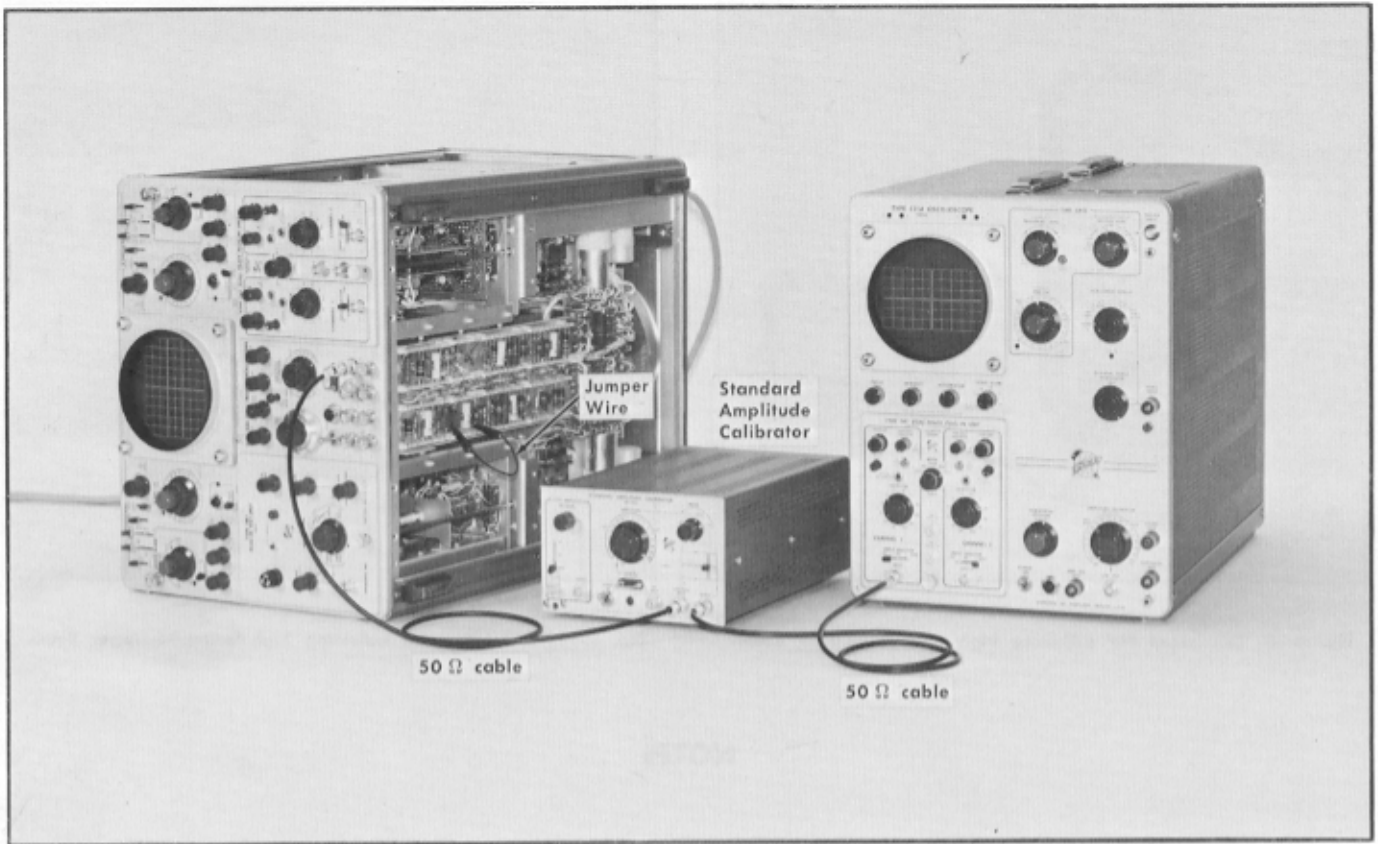

Fig. 6-12. Test setup for Amplitude Calibrator adjustment.
①
- a. Test equipment setup as shown in Fig. 6-12.